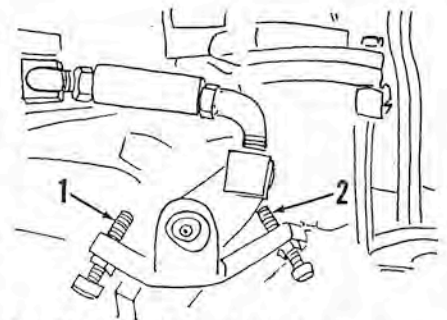

Fig. M54—On Mark 25, the timing advance stop screws must be adjusted as outlined in text.
On Mark 25, adjust spark advance as follows: Turn twist grip until carburetor throttle arm is approximately ¾-inch from end of magneto cam travel; then turn the adjusting screw (2—Fig. M54) to just touch control lever as shown. Adjust the stop screw (1) to limit the low-speed travel to a point where best performance is obtained.